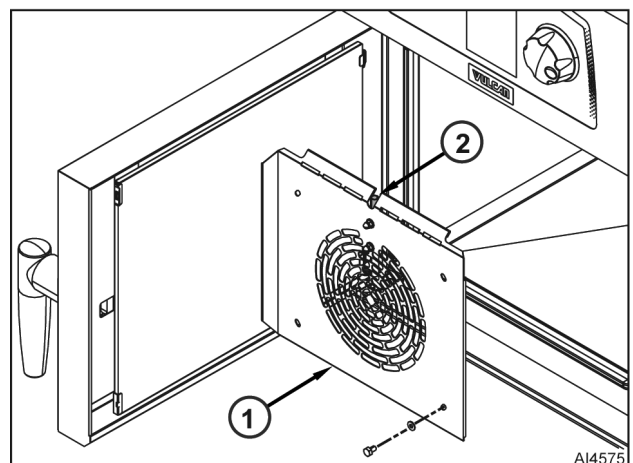

Fig. 21
NOTE: Pull baffle plate out from bottom so water dispenser tube (2, Fig. 21) disengages from fluid manifold.
2. Remove bolts, washers, and baffle plate (1, Fig. 21) from oven cavity.